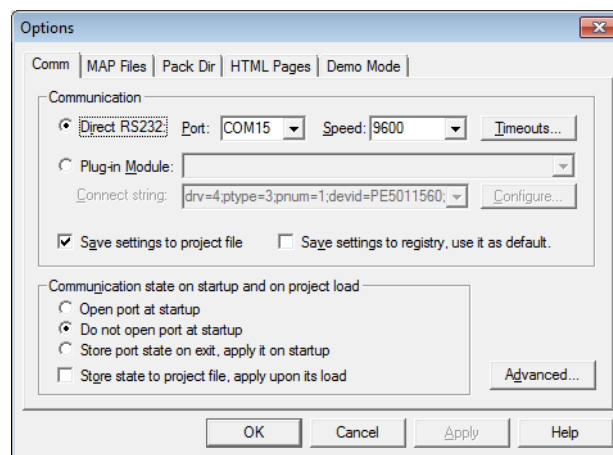

Figure 5-3. FreeMASTER options communication tab
5. Go to the Project/Options comm tab and set the USB virtual port number, and the communication speed 9600 kBd, see Figure 5-3